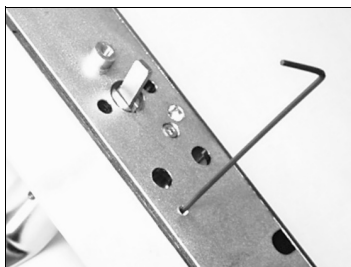

Fig. 1c: Use 1/16" hex wrench to screw in the cylinder back stop screw
- 1c. **Remove the key. Use a 1/16" hex wrench to screw the cylinder back stop screw in fully.** (See Fig. 1c) The key should now only rotate *counter-clockwise*.